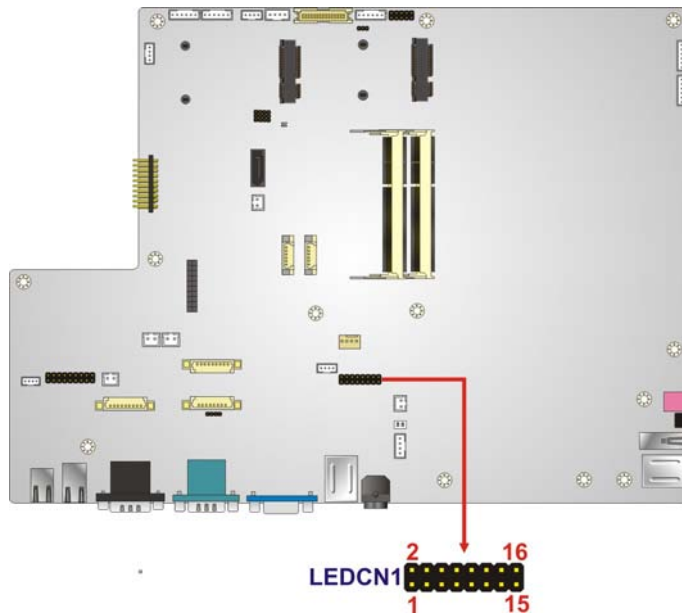

Figure 5-20: LED Connector Location
- CN Location: See **Figure 5-20**